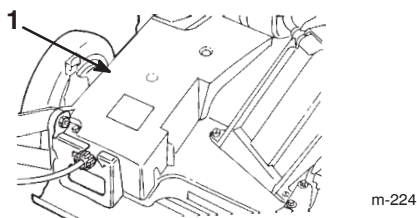

Figure 28
3. Remove the bolts that secure the belt cover to the lawn mower housing (Fig. 28).